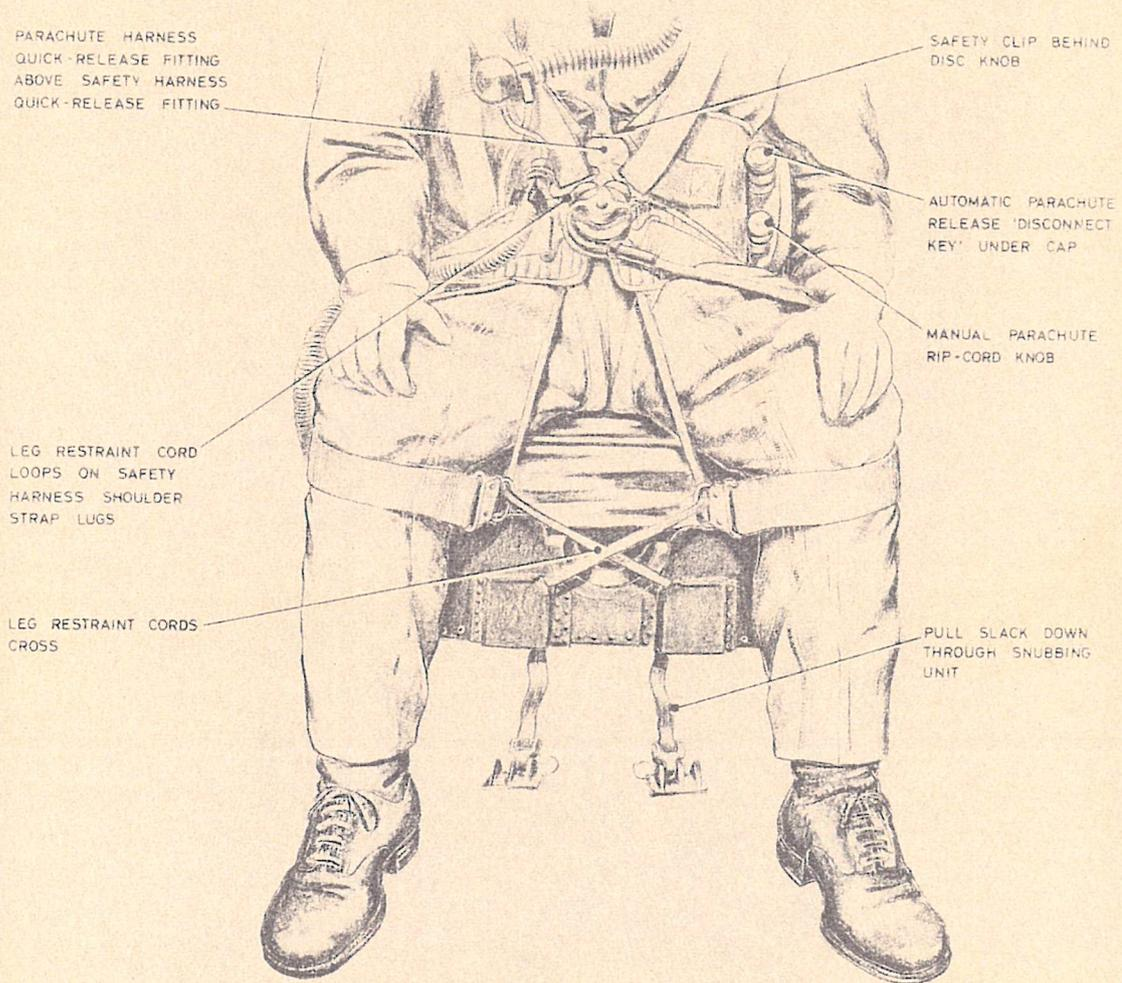

Fig. 3 Arrangement of leg restraint cords
20. Strapping-in procedure is as follows: refer to fig. 3, 4 and 5 for detail as necessary: -